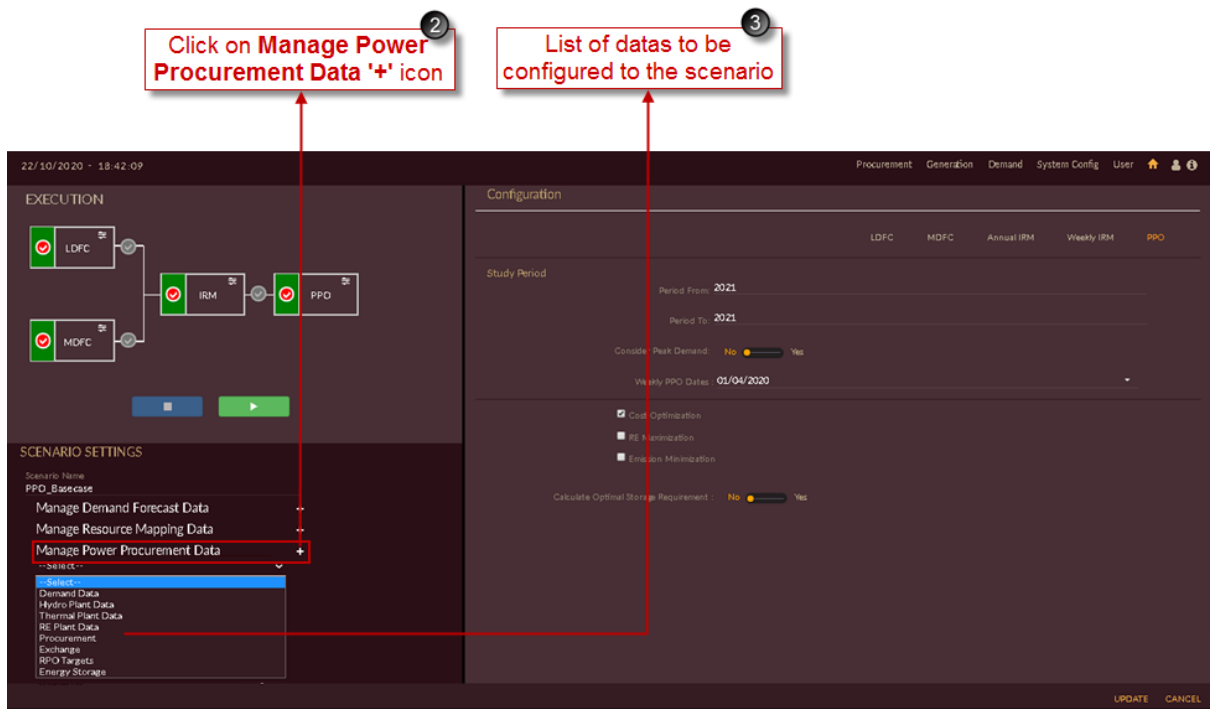

Figure 265. Managing Power Procurement Data
Once you click **Edit scenario**  icon page will appear as shown in Figure 265.
3. Once you click **Manage Power Procurement Data** **+** icon, list of data to be configured will appear as list. If we see Figure 265 there are eight different data to be configured to the scenario, they are;